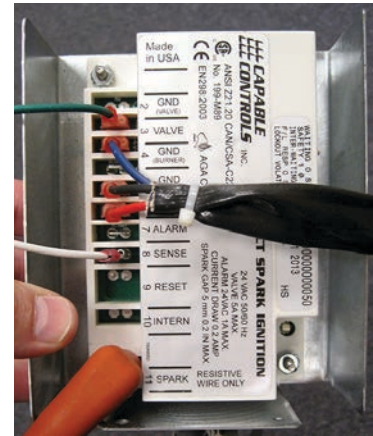

Figure 11 (left module wiring)
22. The left module should be wired as shown in Figure 11.